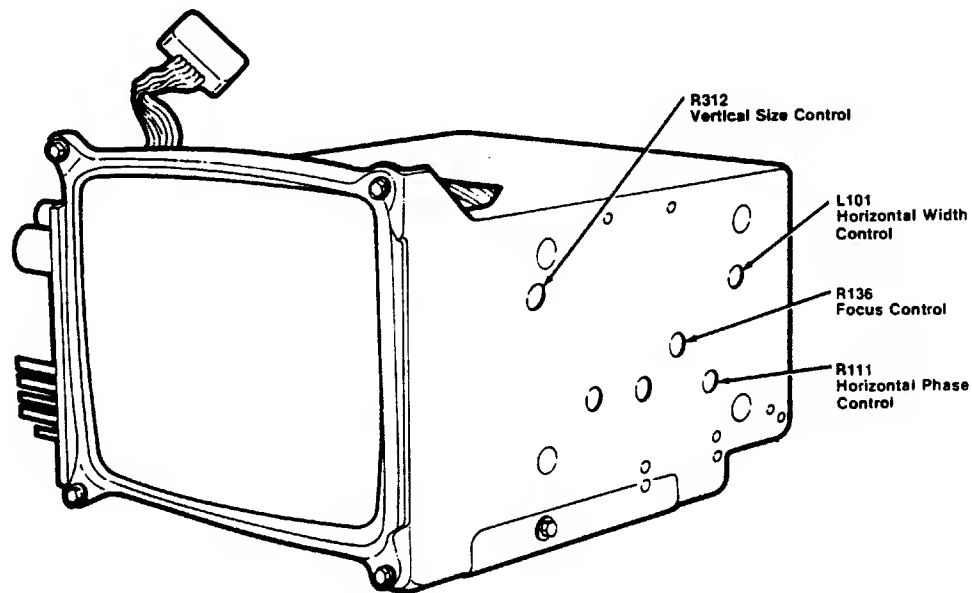

FIGURE 8-59. VIDEO MONITOR ACCESS PORTS
- 8.4.2.3 Rotate focus control, R136 on monitor PC board, to obtain best focus at a point near the center of the screen horizontally and 1/3 down from the top (Figure 8-59).
- 8.4.3.3 Rotate vertical size control, R312 on monitor PC board, to obtain desired display size (Figure 8-59).
- 8.4.4.3 Rotate horizontal width control, inductor L101 on the monitor PC board, for desired display size (Figure 8-59).
- 8.4.4.4 Rotate horizontal phase control, R111 on monitor PC board, for desired video border position (Figure 8-59).